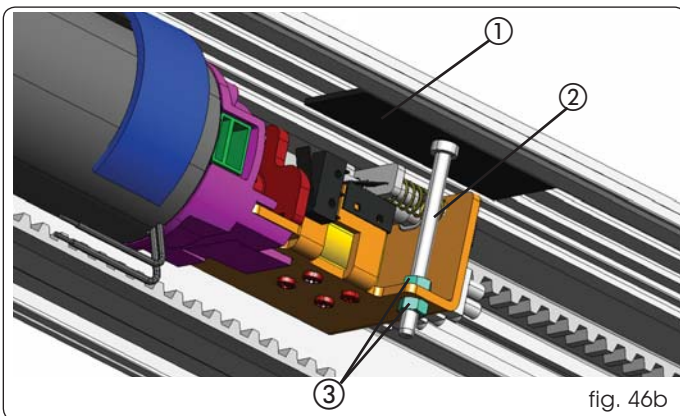

fig. 46b
Apply an adhesive strip on the upper part of the profile, as shown in the figure 46b rif. ①. Fit the screw on the end section of the end bracket of the motor block with the head facing upwards and resting on the strip, as shown in the figure 46b rif. ②. Then make the adjustment via the 2 nuts on the end part of the screw refer to the figure 46b rif. ③